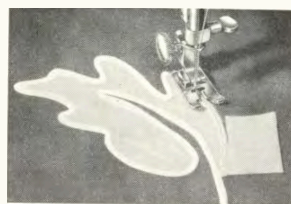

Fig. 54.
2. Outline the design on the material, without cutting it out, and then run narrow, short zigzag stitches around the contour. The controls for stitch width and stitch length should both be set at 1 for this. Trim off the material close to the stitching and sew along the edge with close zigzag stitches and a wider bight setting. The upper thread tension should also be rather light in order to make the seam lie properly (Fig. 54).